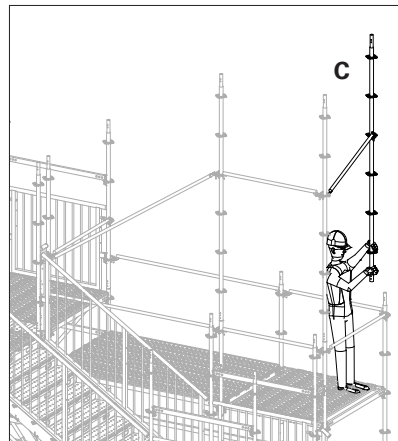

Fig. B3.01c
3. Continue with the next Standard, attaching the next Guardrail UPGA 150 (**37**) to the next Standard at 2m high, then insert the Standard at Point **(C)** (Fig B3.01c)